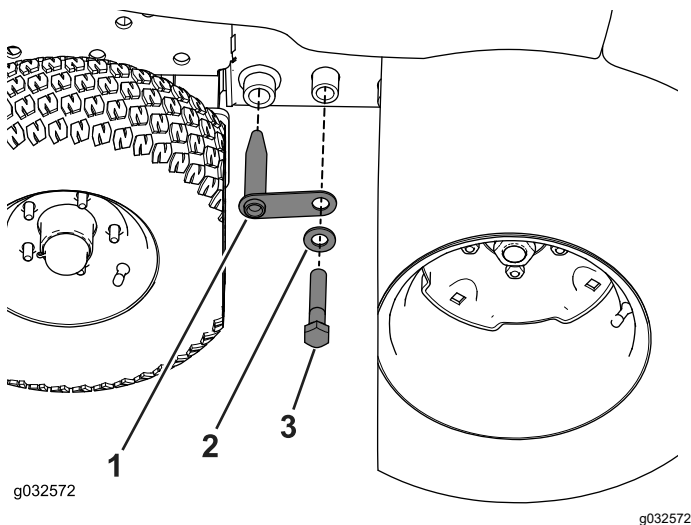

Figure 117
7. Remove the bolt, washer, and coupler link from the machine frame (Figure 117).